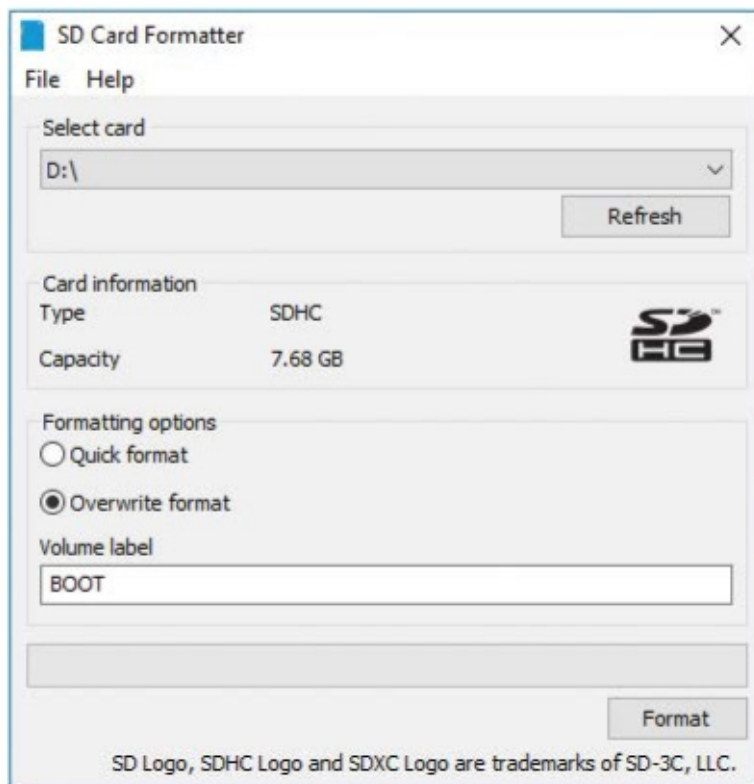

FIGURE 0-8: The SD Card Formatter dialog on Windows
4. If you're using Windows, in the SD Card Formatter dialog, select the drive for your SD card from the drop-down menu and select the **Overwrite format** option. Click the **Format** button to format (see Figure 0-8).